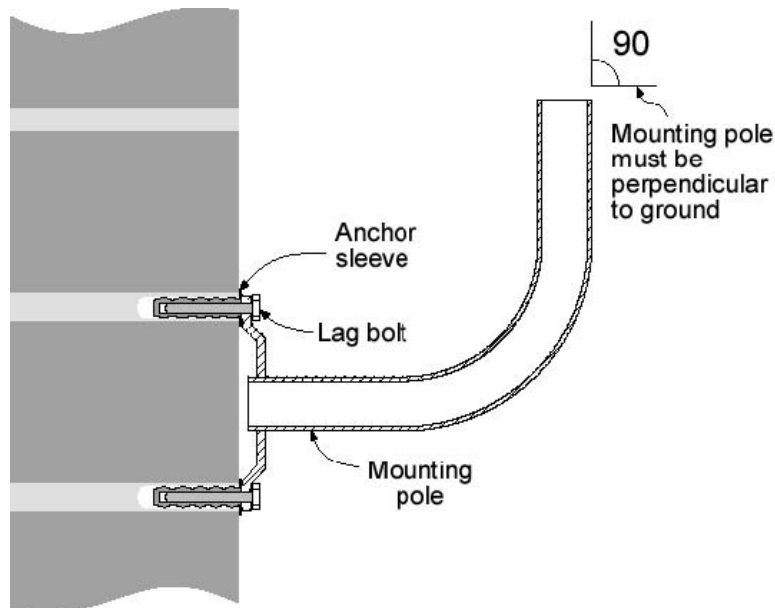

Figure 4-5 Mounting Pole Installation
- 1) Place the mounting plate against the wall (Figure 4-5). Use a level or plumb line to set the mounting pole perpendicular to the ground.